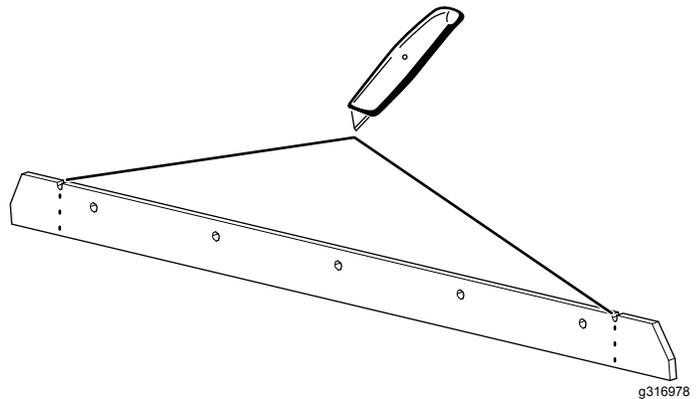

Figure 2
1. Cut the wiper at the notches as shown in Figure 2.